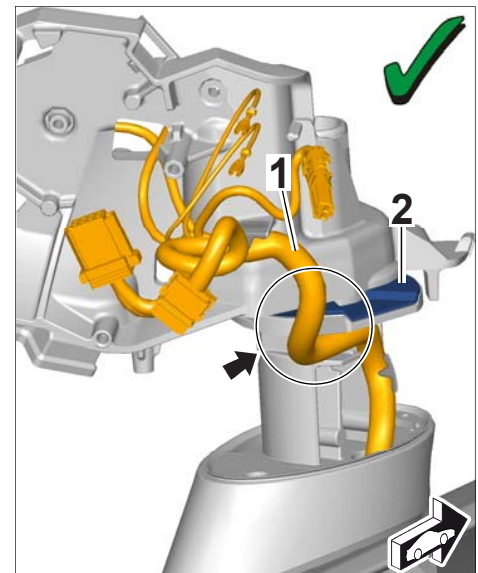

Figure 1
**Figure 1** shows the **correct** routing of the wire harness at the exterior mirror.
- 2.1 **If** the wire harness for exterior mirrors ⇒ *Figure 1 -item 1-* as shown in ⇒ *Figure 1* is **in front of** the locking disc ⇒ *Figure 1 -item 2-* on the mirror base ⇒ *Figure 1 -arrow-* ⇒ the wire harness is **routed correctly**. ⇒ **Continue** with **Step 4.2** and secure the wire harness by installing an additional cable holder.